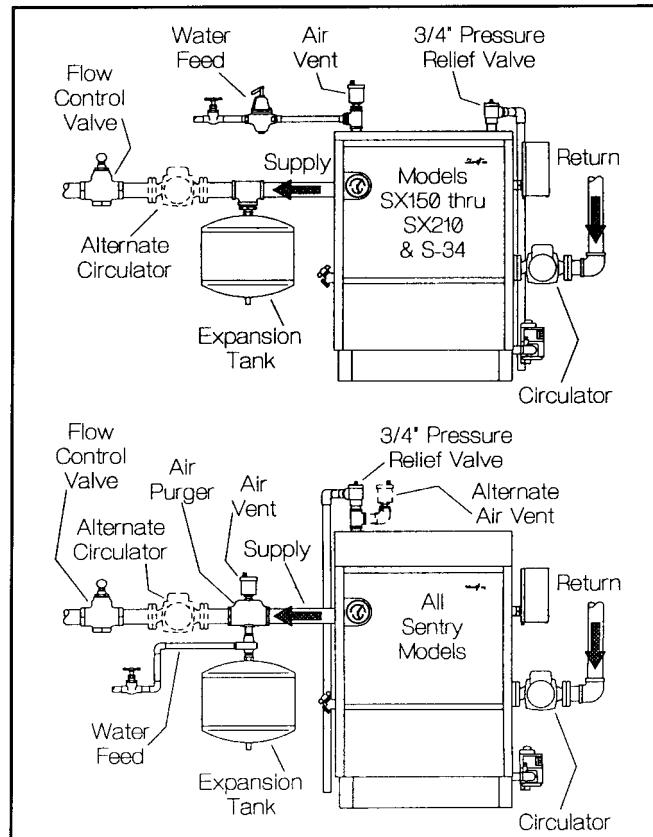

Figure 10. Piping Arrangement
A. Packaged water boilers are equipped with a water circulating pump, mounted to return the water into the boiler. For some installations, the pump should be on the supply main. See figure 10.
A. DIAPHRAGM-TYPE COMPRESSION TANKS are used to control system pressure in an AIR ELIMINATING SYSTEM: an automatic air vent is used to REMOVE air from the system water. See figure 10. If system pressure needs further control, add an additional tank or install a larger capacity tank. Locate the tank near the boiler, as illustrated. An automatic air vent should be installed in the top of the boiler or air purger. See figure 10.